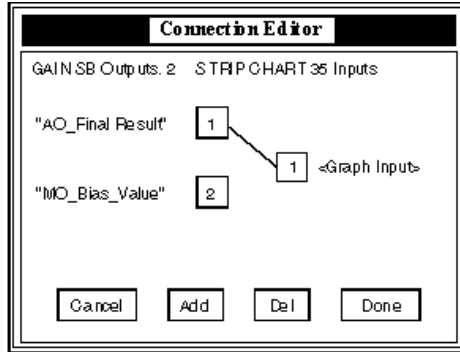

Figure 5-1. IA Connection Editor for SB External Outputs to Display Icons
To connect the SystemBuild (SB) top level SuperBlock external outputs to display icons, click the middle mouse button in the **IA Builder Build** window workspace (outside the icon), then move the cursor inside the icon and click the middle mouse button. The IA Connection Editor for this type of connection appears, as shown in Figure 5-1.